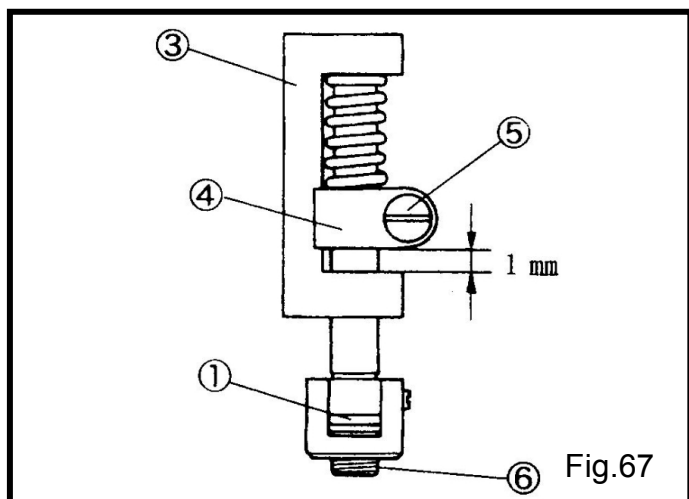

Fig.67
- (2) 刀座 ③ 和壓力彈簧軸環 ④ 之間的標準間隙為 1.0mm。(Fig.67)
- (3) 鬆開螺絲 ⑤ 和移動軸環 ④ 調整壓力。
- 增加壓力往上移動彈簧軸環 ④。
- 減少壓力往下移動彈簧軸環 ④。
- (2) The standard clearance between the bearing of the knife holder shank support ③ and the knife holder guide collar ④ is 1.0 mm. (Fig.67)
- (3) Loosen the screw ⑤ and move the knife holder guide collar ④ to adjust the pressure.
- To increase the pressure, move the collar ④ upward.
- To decrease the pressure, move the collar ④ downward.